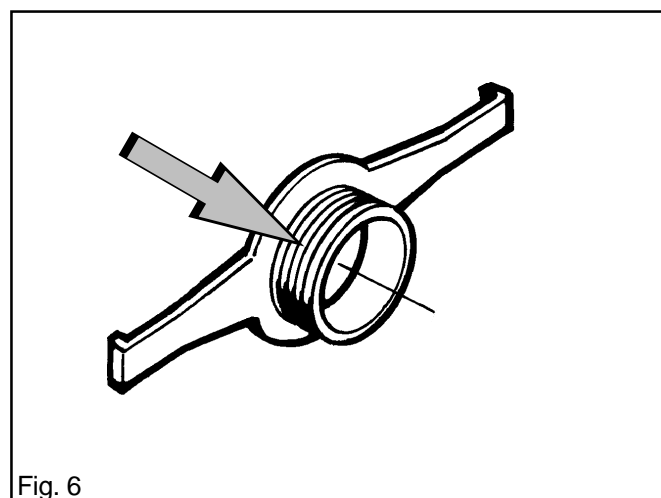

Fig. 6
4. The oil pump drive worm gear is undamaged. See fig. 6.